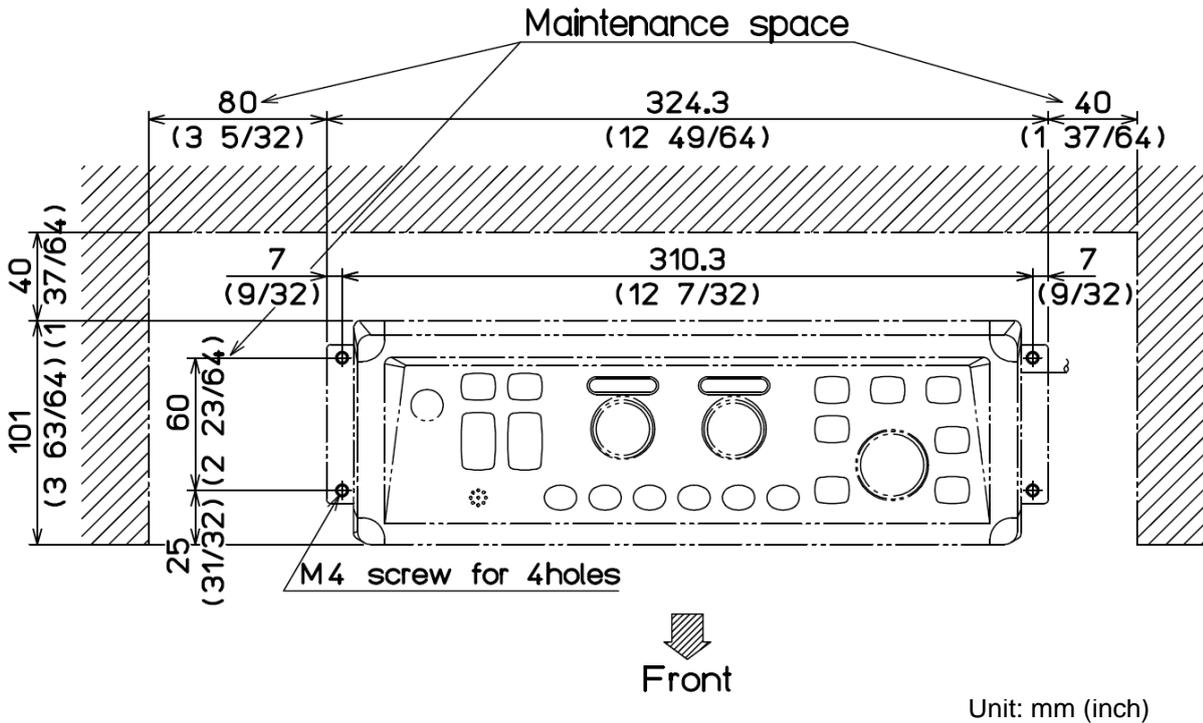

Fig.1.8 Maintenance space of desk-top installation
- (1) Decide the location to install the Operation unit and keep the space for the maintenance works as shown in Fig. 1.8.
- (2) Mark the position where installation plinth is installed. (See Fig. 1.8)
- (3) Remove 4 plastic corner guard caps of the Operation unit (These can be easily pulled out upwards)
- (4) Fix the clamps to the Operation unit with the screw of 4M (4mm). Install the corner guard caps removed in step (3).
- (5) Confirm that the clamps matches the marking position. If not matches, correct the marking position
- (6) Install the clamps in the installing location (4 holes) and fix it with 4 tapping screws (4mm) (M4 or pan-head). (Prepare 4 mm screws suitable for thickness of installing location.)